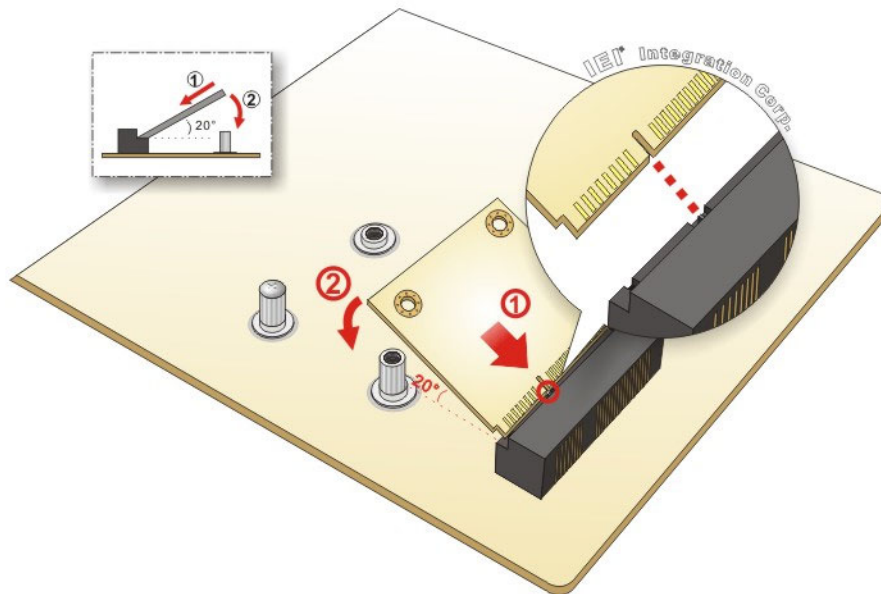

Figure 4-8: Inserting the Half-size PCIe Mini Card into the Slot at an Angle
Step 5: Insert into the socket at an angle. Line up the notch on the card with the notch on the slot. Slide the PCIe Mini card into the slot at an angle of about 20° (**Figure 4-8**).